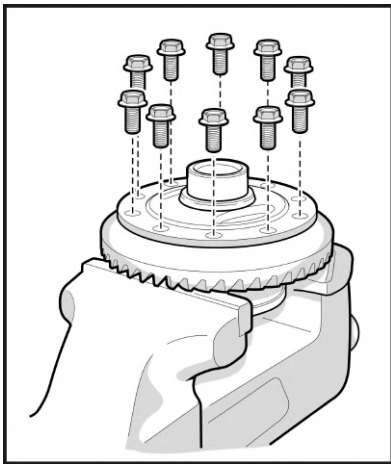

Fig. 12
2.1 Secure the existing differential in a vise. Remove the ring gear mounting bolts. (**Fig. 12**)